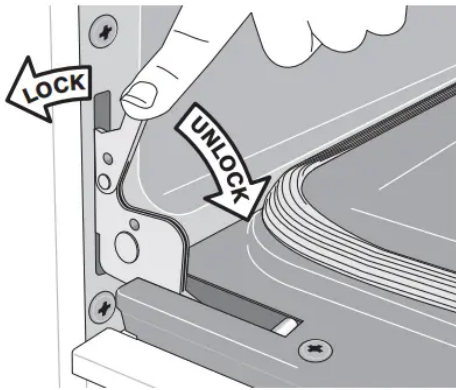

Figure 22: Door hinge locks
2 Pull the door hinge locks on both left and right door hinges down from the oven frame completely towards the oven door (See Figure 22). A tool such as a small flat-blade screwdriver may be required
4. Push the door hinge locks up towards and into the oven frame on both left and right oven door hinges to the locked position (See Figure 22).